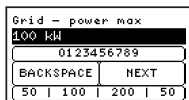

fig. 10: Maximum exported active power
4. Enter the maximum active power which may be exported to the grid.^(1, fig. 10)